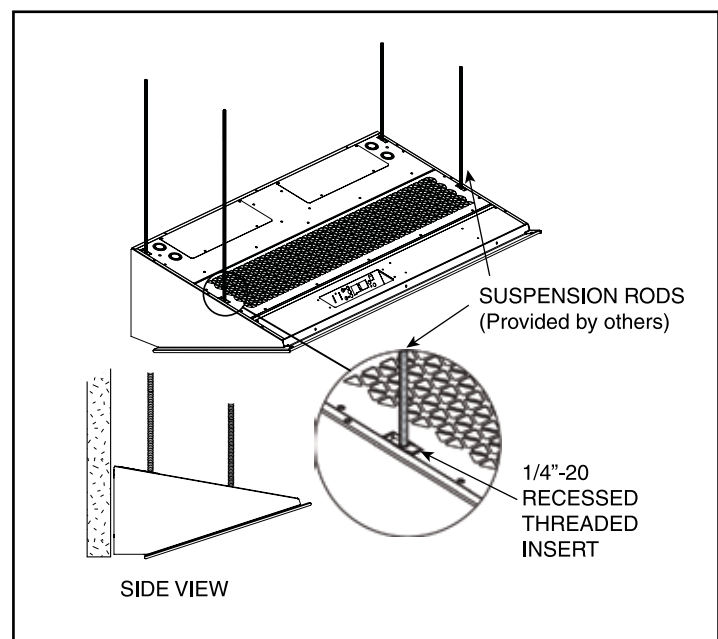

Figure 6 - Suspended Mounting
- For top mounting using suspension rods, four (4) factory installed 1/4"-20 threaded inserts are located on the top of the unit. **See Figure 6.**